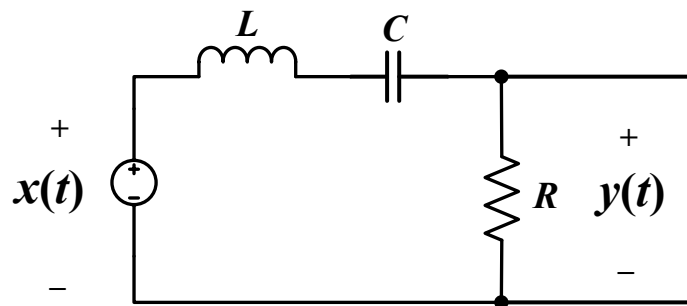

Fig. 4
This time you will experimentally investigate the characteristics of an analog filter with a series RLC circuit as shown in Fig. 4. Perform the following:
1. Build the circuit shown in Fig. 4 on a breadboard, with $R = 500\Omega$ (i.e. parallel the two $1k\Omega$ resistors), $L = 10mH$, $C = 1\mu F$.